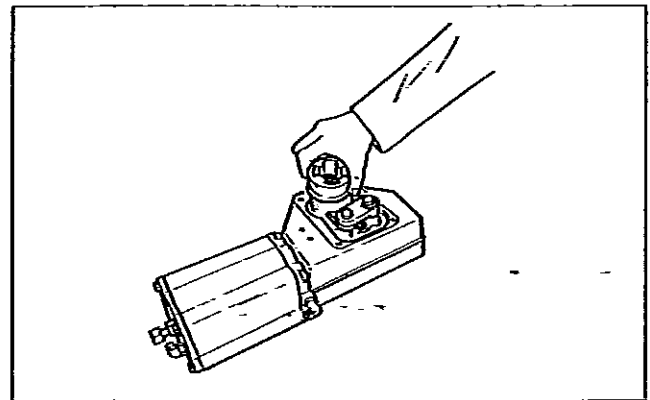

Fig. 15. Removing the linkage from the housing
- Turn lever arm (3) to detach the bearing unit from the piston rod (10). Lift the entire linkage out of the housing. See Fig. 15.
- Remove lever arm bearings (23) and O-rings (17).
- Assemble the linkage and install in the housing; the correct position is shown in Fig. 15.
- Apply sealant, e.g. Loctite 225, to the bearing unit screw (29) thread and tighten the screw as in table 1.
- Turn lever arm (3) to detach the bearing unit (5) from the piston rod. Lift the entire linkage out of the housing. See Fig. 15.